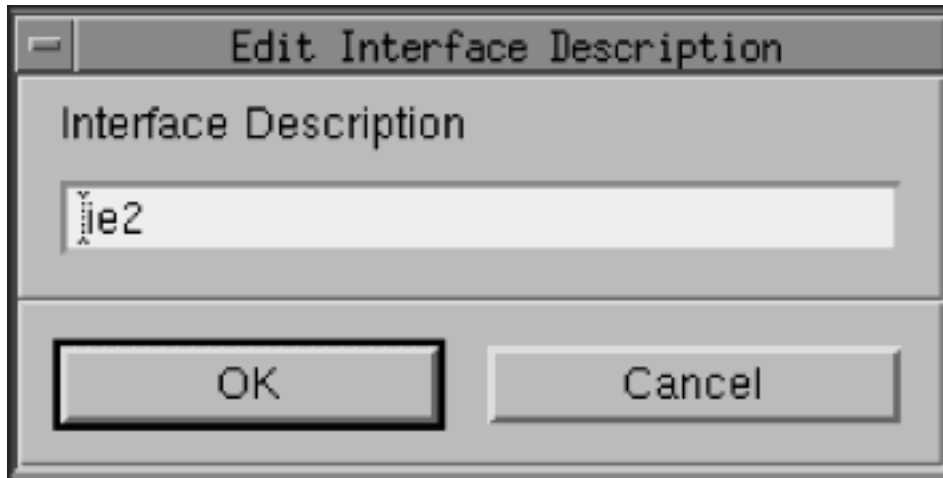

Figure 18. Edit Interface Description Dialog Box
3. Click **Interface Description** and the Edit Interface Description dialog box opens, as shown in Figure 18 on page 46.